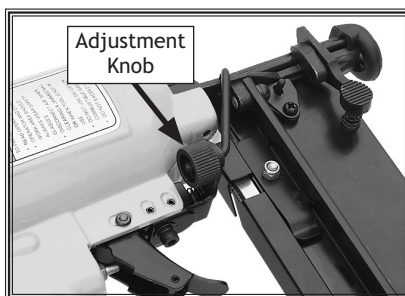

Figure 5. Depth adjustment control.
2. Rotate the adjustment knob (**Figure 5**) clockwise to increase nail depth, and counterclockwise to decrease nail depth.